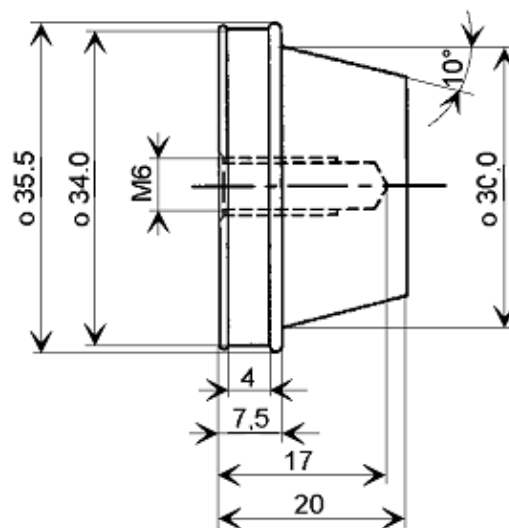
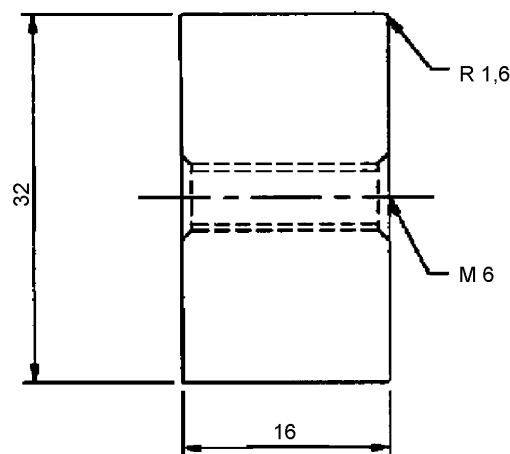

Figure 1: Hose Plug (Material, e.g., Polyamide)
Figure 2: Hose Test Electrode Material:
3.2.3 End plugs chemically resistant, made of electrically nonconductive thermoplastic as polyamide, Polytetrafluoroethylene (PTFE) or polypropylene, suitable for isolating voltage applied to end of hose from the liquid test media inside the hose. Electrical contact surface for applied voltage should be the inside circumference of test hose. The hose plug (Figure 1), and the hose test electrode, (Figure 2), are connected with a screw to form the end plug assembly and are shown for hoses with 34 mm inside diameter, which is preferred, but other sizes can also be used.